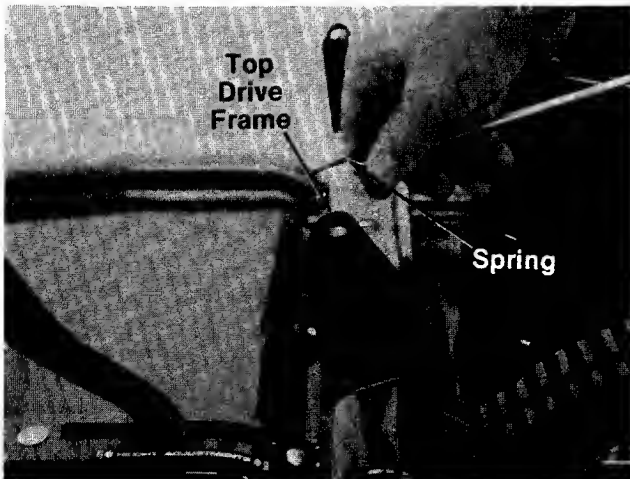

FIGURE 11.
3. Hook the springs on the clutch rods into the holes in the top drive frame. See figure 11.